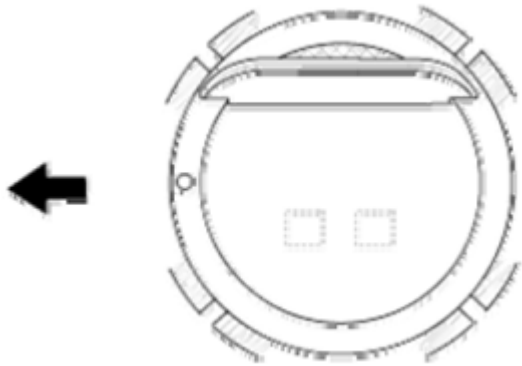

Fig. 32: Installing Piston Rings
3. Position the piston rings so that the ring ends are as shown in **Fig. 32**.